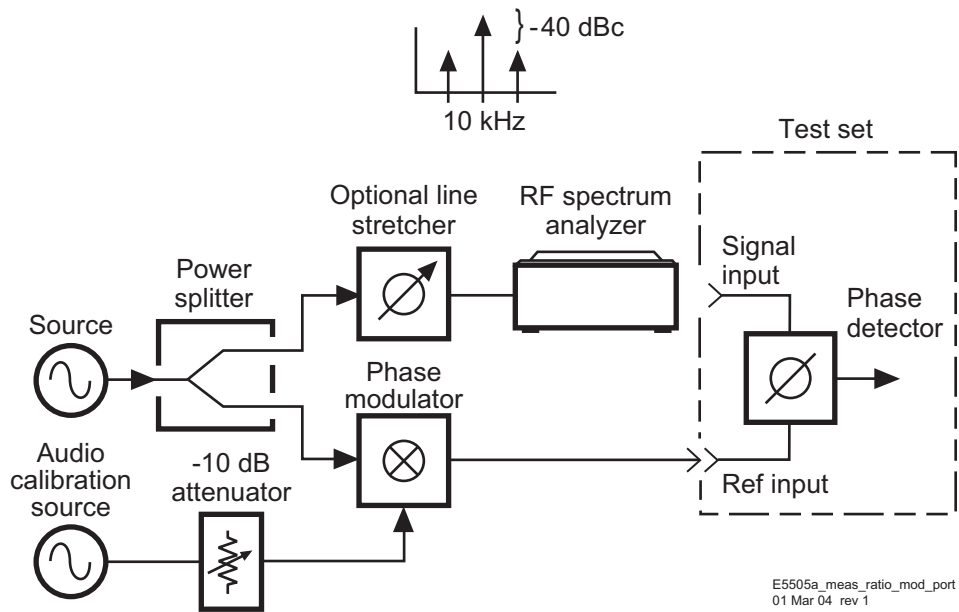

Figure 158 Measuring carrier-to-sideband ratio of the modulated port
- Using the RF spectrum analyzer or modulation analyzer, measure the carrier-to-sideband ratio of the phase modulation at the phase detector's modulated port and the modulation frequency. The audio calibration source should be adjusted such that the sidebands are between -30 and -60 dB below the carrier and the audio frequency is between 50 Hz and 50 MHz. See Figure 158.